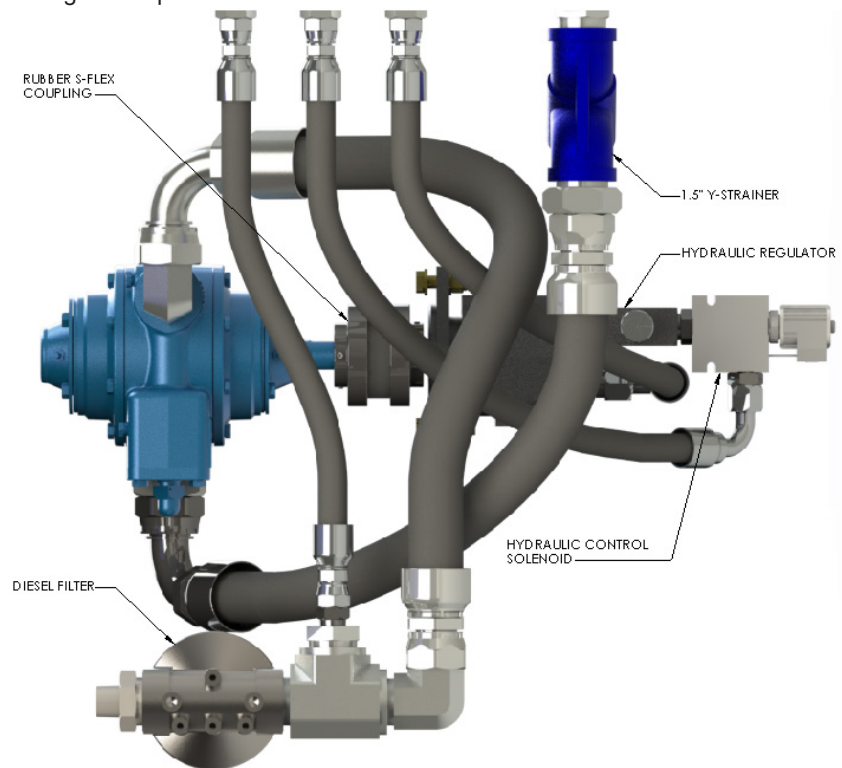

Fig. 6. Fuel Pump Hatch Compartment
1. Engage the fuel pump and confirm that the rubber gear coupling (Fig. 6) between the fuel pump and the hydraulic motor is rotating. If the coupler is broken, check if the fuel pump has locked up. If the pump rotates freely replace the coupler. If not, replace the pump.